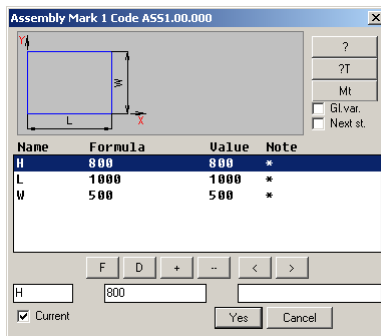

Fig. 2.2. Assembly mark
4. Edit variables in the next window, see fig. 2.2.
Attention! Setting “**Current**”, see fig. 2.2, sets the new assembly as current after insertion it in the project.
You can set current Assembly by dialog window (see fig. 2.2) or command **Assembly >> Current assembly**.